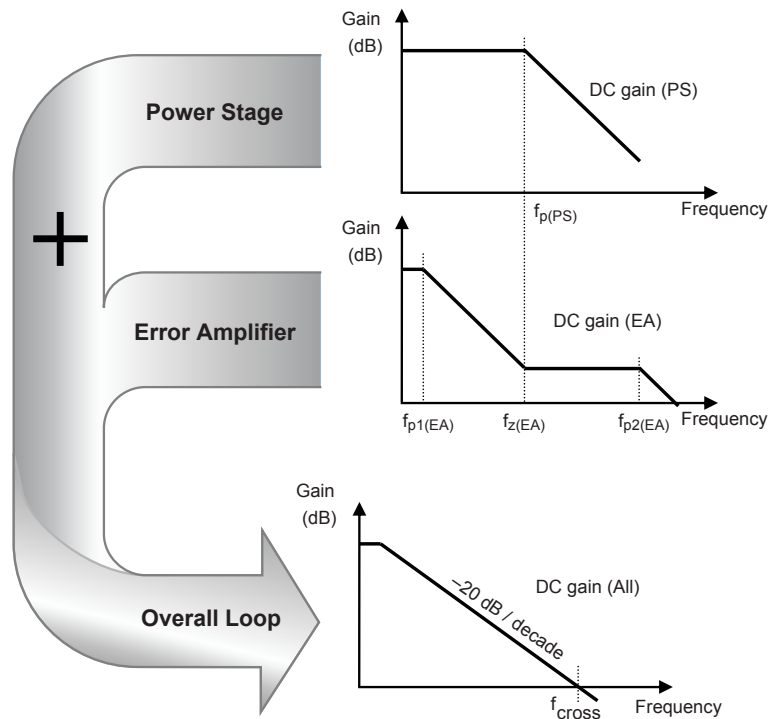

Figure 5. Power stage, error amplifier, and combined overall control loop response
Figure 5 illustrates the power stage gain, the error amplifier gain, and then the combined overall loop response (power stage and error amplifier).
2. Overall DC gain (refer to figure 5):